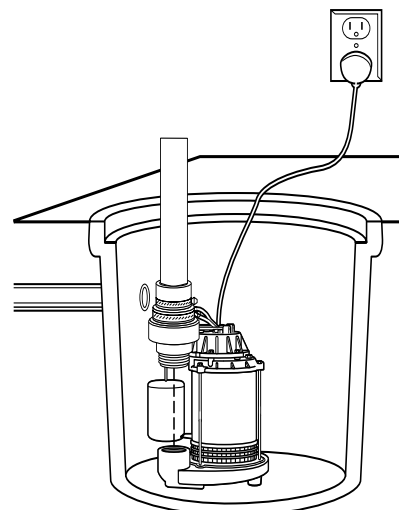

Figure 2 – Submersible Pump Installation
1. Construct a sump pit from concrete, steel, or plastic that is 24" deep and at least 11" in diameter (Figure 2). If the sump already exists, make sure it is the proper size.